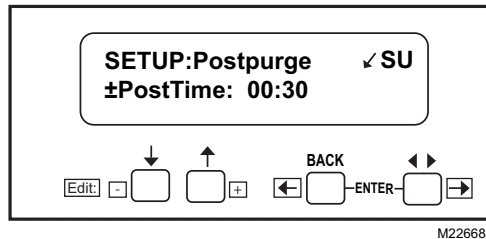

Fig. 14. Setting Postpurge time.
12. "Getting Data" will be momentarily displayed, followed by the screen shown in Fig. 14.